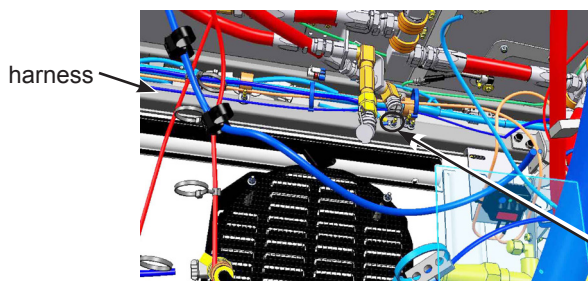

Figure 9 - Routing on Harness 64
- 1.15. Harness routing will be following existing license plate harnesss towards the main engine harness on the curbside IB-X6499A connector. See Figure 9.